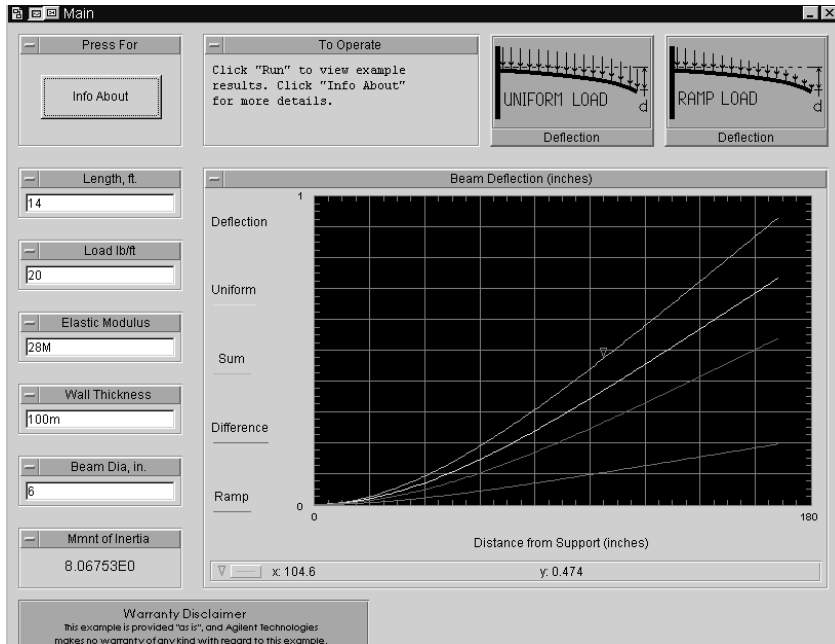

Figure 12.5. Beam.vee program after running
5. Run this program; it should look like Figure 12.5.